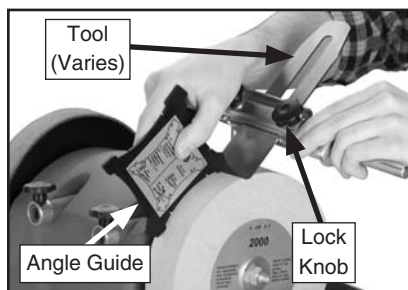

Figure 9. Clamping tool.
3. Insert the tool into the jig clamp, as shown in **Figure 9**, then use the angle guide, as described in **Angle Guide** on **Page 15**, to set the grinding angle.
4. Once the grinding angle is set, tighten both lock knobs (**Figure 9**).